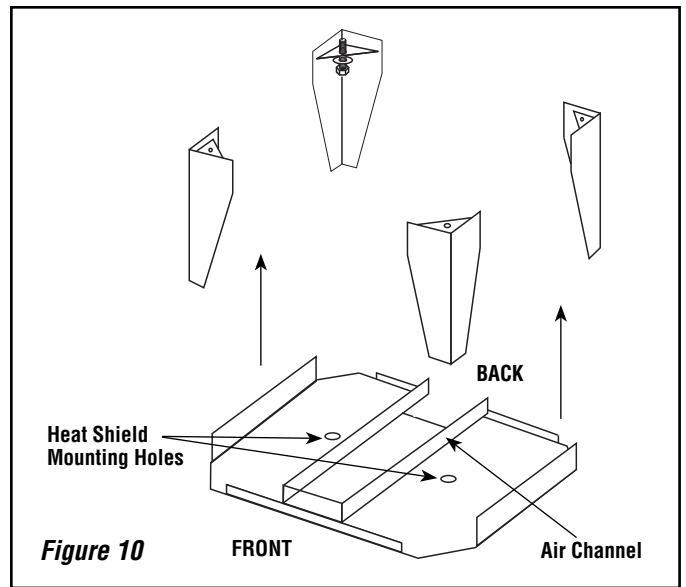

Figure 10
4. Use the two bolts and washers provided with the heatshield kit to mount the heatshield as shown in *Figure 10*.